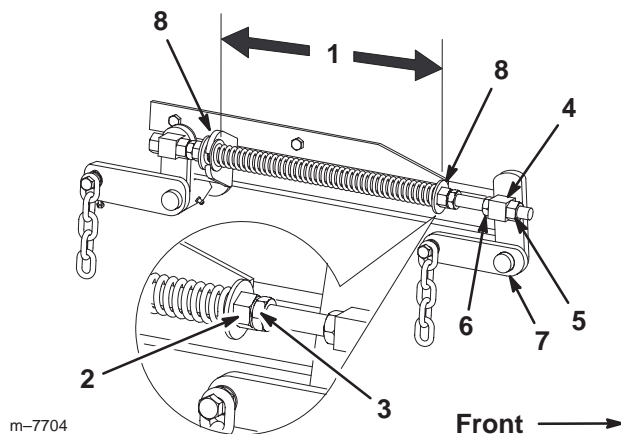

Figure 54
- Loosen the front swivel jam nuts, at the front of the right and left swivels, approximately 1/2 inch (13 mm) (Fig. 54).
- Adjust the lift nuts on both the left and the right side of the machine to achieve **1/4 to 3/8 inch (6 to 10 mm) lower in front at A than in the rear at B** (Fig. 54).
- Raise the mower lift lever to the transport position (Fig. 54).
- Check the distance between the 2 large washers; it must be 10-1/4 inches (26.7 cm) (Fig. 54).
- Adjust this distance by loosening the spring jam nut and turning the nut in front of each spring (Fig. 54).
- Lock the nut into position by tightening the spring jam nut (Fig. 54).